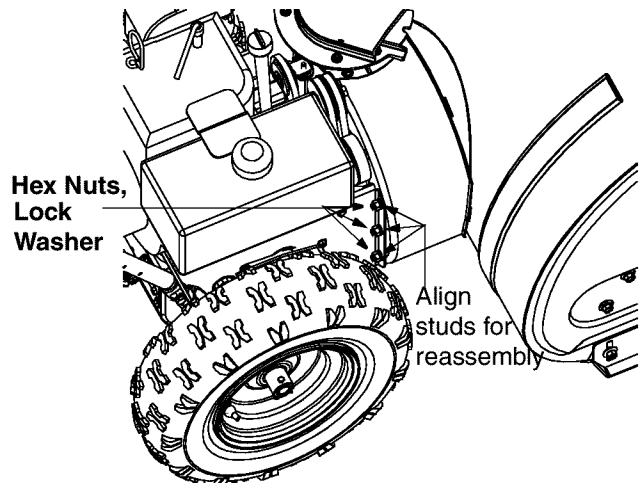

Figure 21
- Remove the six hex nuts and lock washers which attach the auger housing assembly to the frame assembly. See Figure 21 **WARNING:**
- Level the frame assembly and tip the auger housing forward to align studs with the corresponding holes on both sides of the frame assembly. See WARNING: Figure 21. Push the frame assembly fully on to the studs.
- From the frame assembly side, insert six lock washers and hex nuts on to the studs. These pieces of hardware were removed earlier. See WARNING: Figure 21. Tighten the nuts securely.